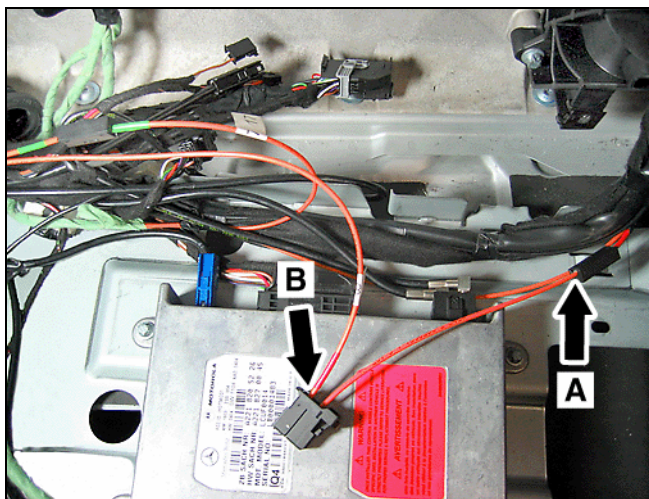

**Figure 12**
- a. Insert the fiber end (B, Figure 10) of the MOST adapter cable into the vacant chamber (A, Figure 12) of the disassembled coupling and reassemble the coupling.
- b. Insert the fiber end removed from the coupling (Arrow, Figure 11) into the vacant chamber (C, Figure 10) of the MOST adapter connector (B, Figure 12).